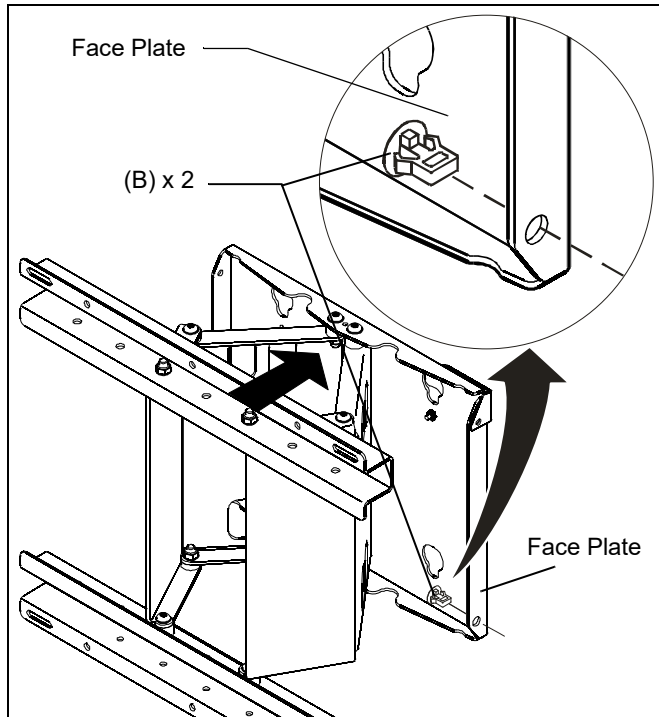

Figure 2
2. Install two cable management clips (B) into each side of mount faceplate. (See Figure 2)